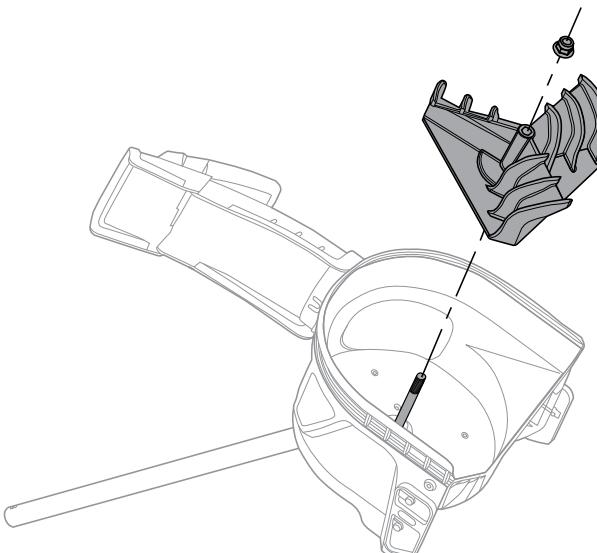

Fig.1
3. Remove the impeller and replace with a new one. (Fig. 1)